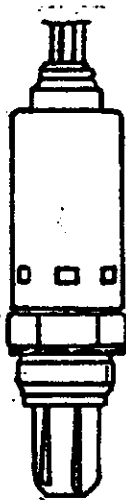

Figure 3
- a) Oxygen sensor: (see Figure 3) is a cell which can be considered as a non-liquid electrolyte, made mainly of zirconium dioxide, with surfaces by a gas permeable layer of platinum, exposed to the exhaust gases at the catalyst inlet. The exterior surface is protected by a ceramic layer.